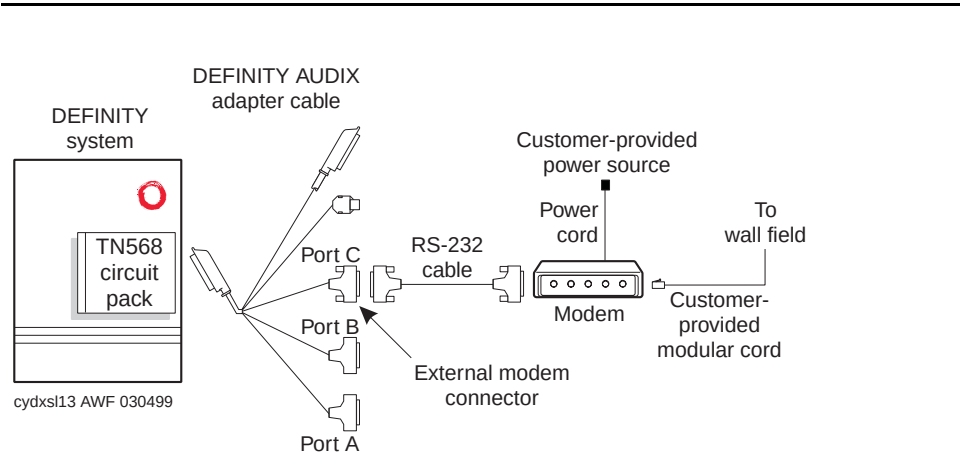

Figure 2-4. Installing the External Modem
1. Connect the modem to Port C as shown in Figure 2-4.